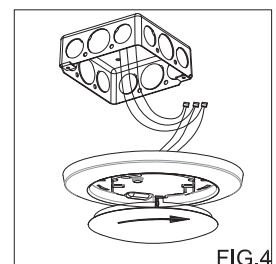

FIG.4
5. Align two holes in the fixture with Outlet box. Use screws to attach one to another. Do not over tighten. (FIG.4)
This type of installation represents a 5 inch barrel (FIG.4)